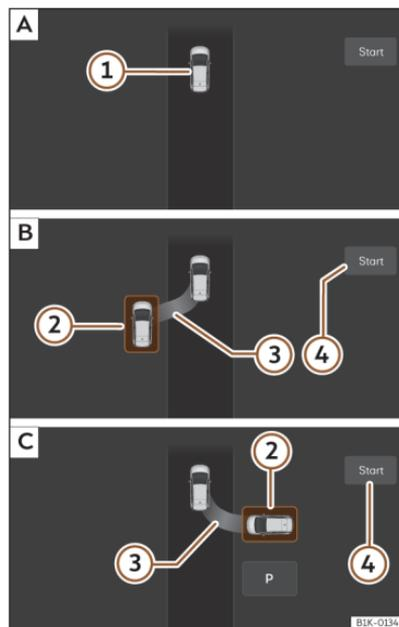

Fig. 145 On the Infotainment system screen. **A:** Finding a parking space **B:** Parallel parking position. **C:** Perpendicular parking position.
- Look at the display on the infotainment system's screen to see if the space has been detected as "appropriate" and if the correct position for parking has been reached >>> Fig. 145 [B] or [C]. Stop the vehicle and follow the instructions shown on the infotainment screen.
- Stop the vehicle, press the brake and, after a short pause, press the **Start** ④ button in the infotainment system.